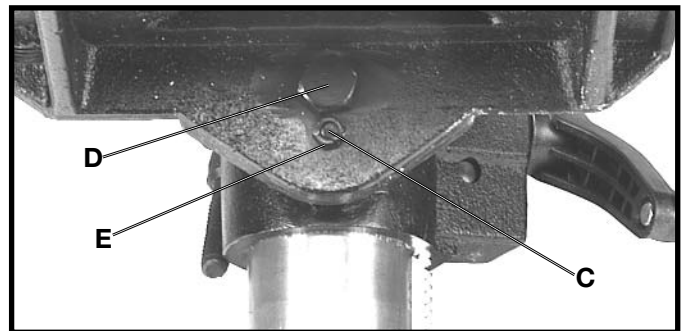

Fig. 21
3. The table can be tilted right or left by pulling out and removing table alignment pin (C) Fig. 21. **NOTE:** If pin (C) is difficult to remove, turn nut (E) clockwise to pull pin out of casting.